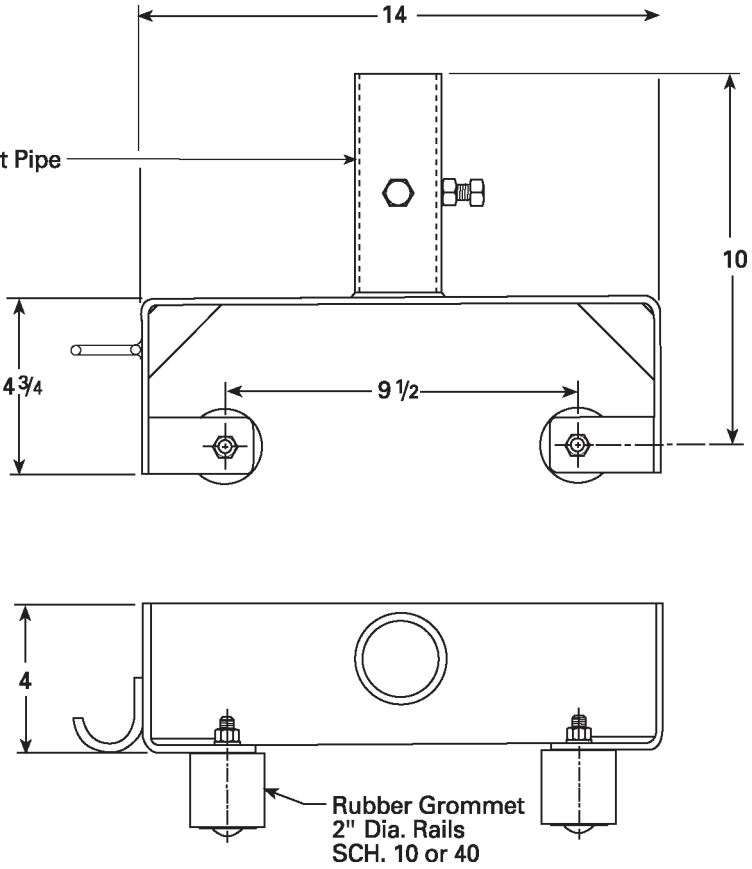

Fig. 5
8. If the top rail support plate cannot be attached to the hatch cover frame, a special rail bracket (Fig. 5) can be furnished for mounting directly to a pipe cemented in the basin wall. This bracket is